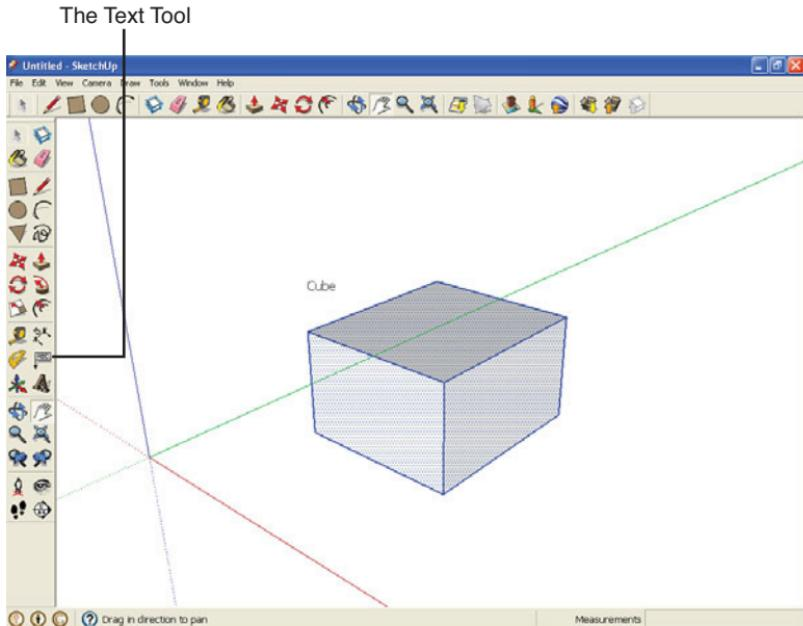

FIGURE 4.9 The Text tool and some text in a drawing.
You can also draw text in SketchUp, and sometimes that's crucial, as when you might want to label the parts of an architectural drawing. For example, take a look at Figure 4.9, which shows a cube, and some text, "Cube."
3. Click the **Text tool** in the large toolbar. The Text tool is the one that displays the letters ABC (as shown in Figure 4.9).
3. Click the **Text tool** in the large toolbar (as shown previously in Figure 4.9).